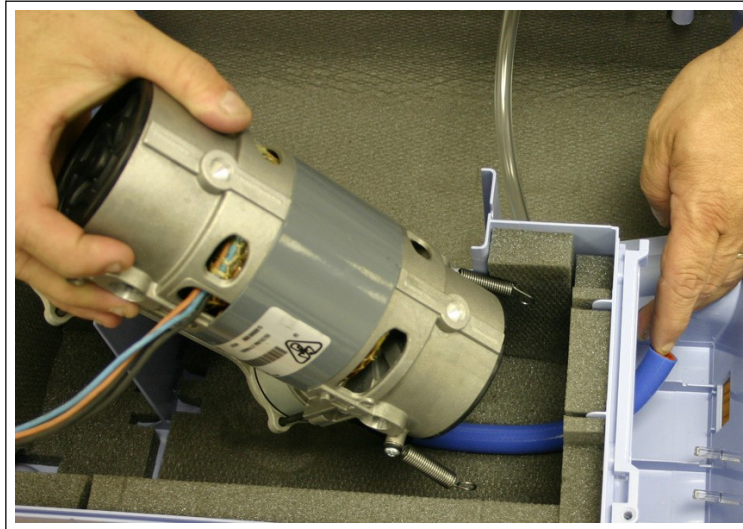

Figure 8-26: COMPRESSOR PLACEMENT INTO FRONT CABINET
2. Connect the Other ends of the Pressure Tubing to the Pressure Regulator and bottom connection on the Flow Meter. Refer to Refer to Figure 8-26.